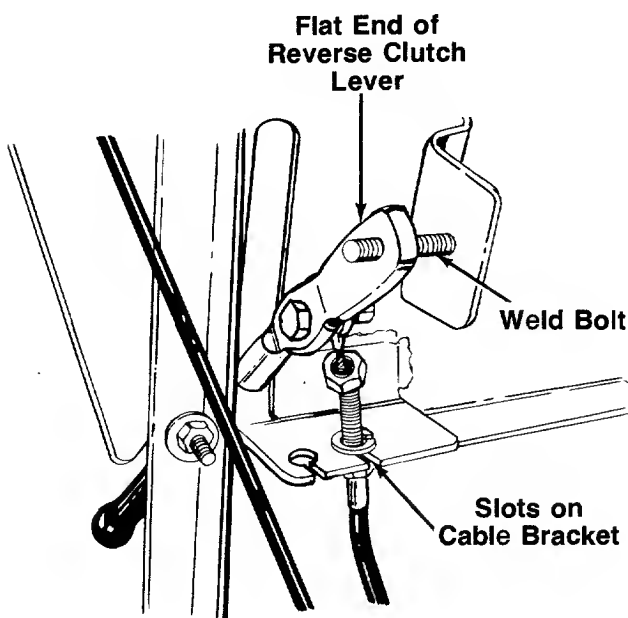

FIGURE 12.
1. Push the flat end of reverse drive clutch lever through the slot in the handle panel. See figure 12.
4. Slip the wire on the cable through the slot in the cable bracket as shown in figure 12. Push the ends of the cable up through the holes in the bracket. Rethread hex nut and lock washer on the end of the cable. Do tighten at this time.
5. Place end of reverse drive clutch lever over weld bolt on handle panel. See figure 12.